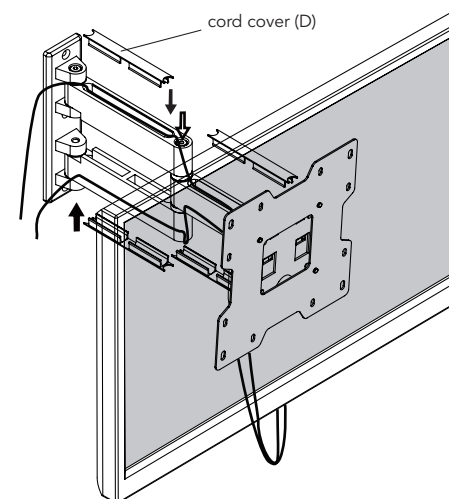

fig.9
Install cord covers (D) as shown, and re-attach covers, see fig. 9.